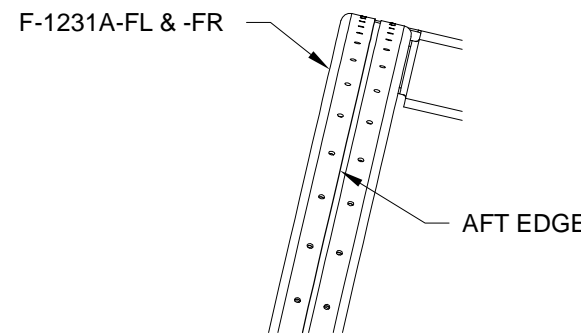
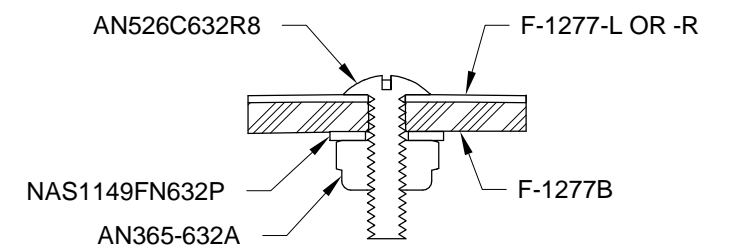

FIGURE 2:
FIGURE 3: WINDOW TO SKIN
Install a screw in each hole as it is tapped. Use low torque to minimize stress on the window. See the hardware called out in Figure 2 on the next page.
Step 4: Apply a line of quality tape (masking or electrical) to the outside of the F-1277B Aft Window. Align the forward edge of the tape with the aft edge of the F-1231A-FL & -FR Roll Bar Frames. Create a cutout in the tape for each screw head. See Figure 2.
Step 1: Install the F-1277B Aft Window on the fuselage using the hardware shown in Figure 2 and Figure 3. Use low torque to minimize stress on the window. Leave the screws/nuts common to the window and the F-1277-L & -R Fwd Turtle Deck Skins loose for now.